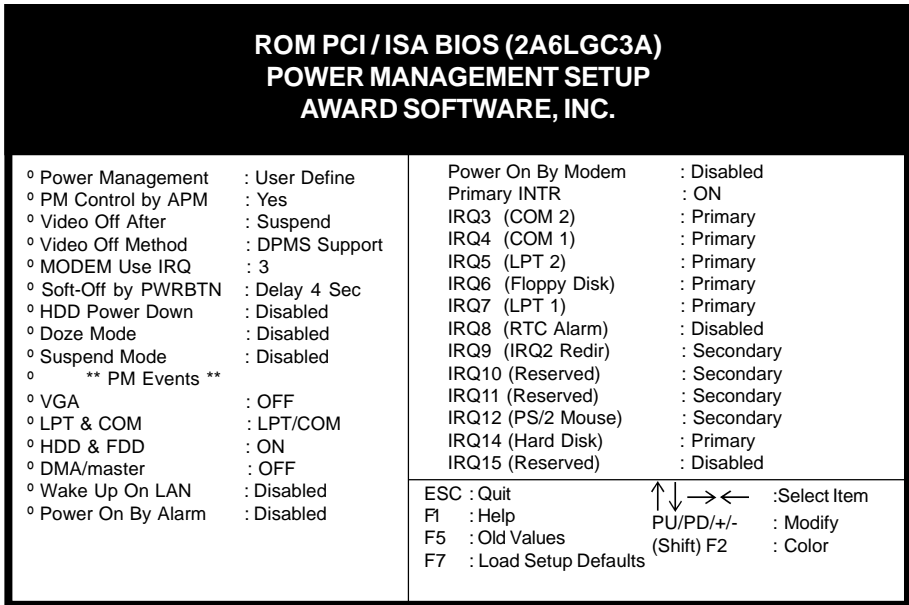

Figure 3-5 Power Management Setup Screen
- ☞ Note that enabling the Power Management function will result in enabling the HDD Power Down function (Max Saving = 15 min, Min Saving = 1 min). The HDD Power Down function is not part of the Power Management scheme as indicated in Figure 3-5. Refer to the Standby Mode, Suspend Mode, and HDD Power Down descriptions below for more information on hard drive power management.